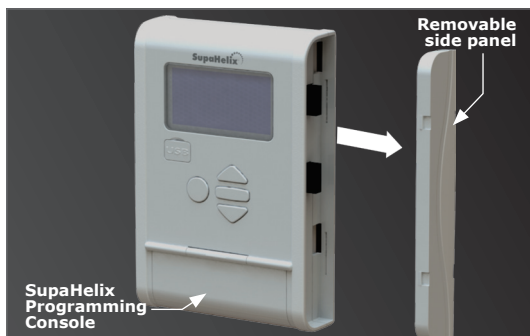

FIGURE 15.
1. Insert a screwdriver in the slot and remove the removable side panel as shown in Figure 15.